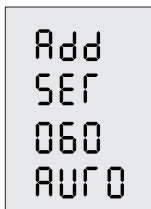

Figure 5-3
Step 3: Press and hold the " **OK** " button to enter the pairing page (Figure 5-3), on which blinking "Add", "SER" and a countdown timer "060" will display.